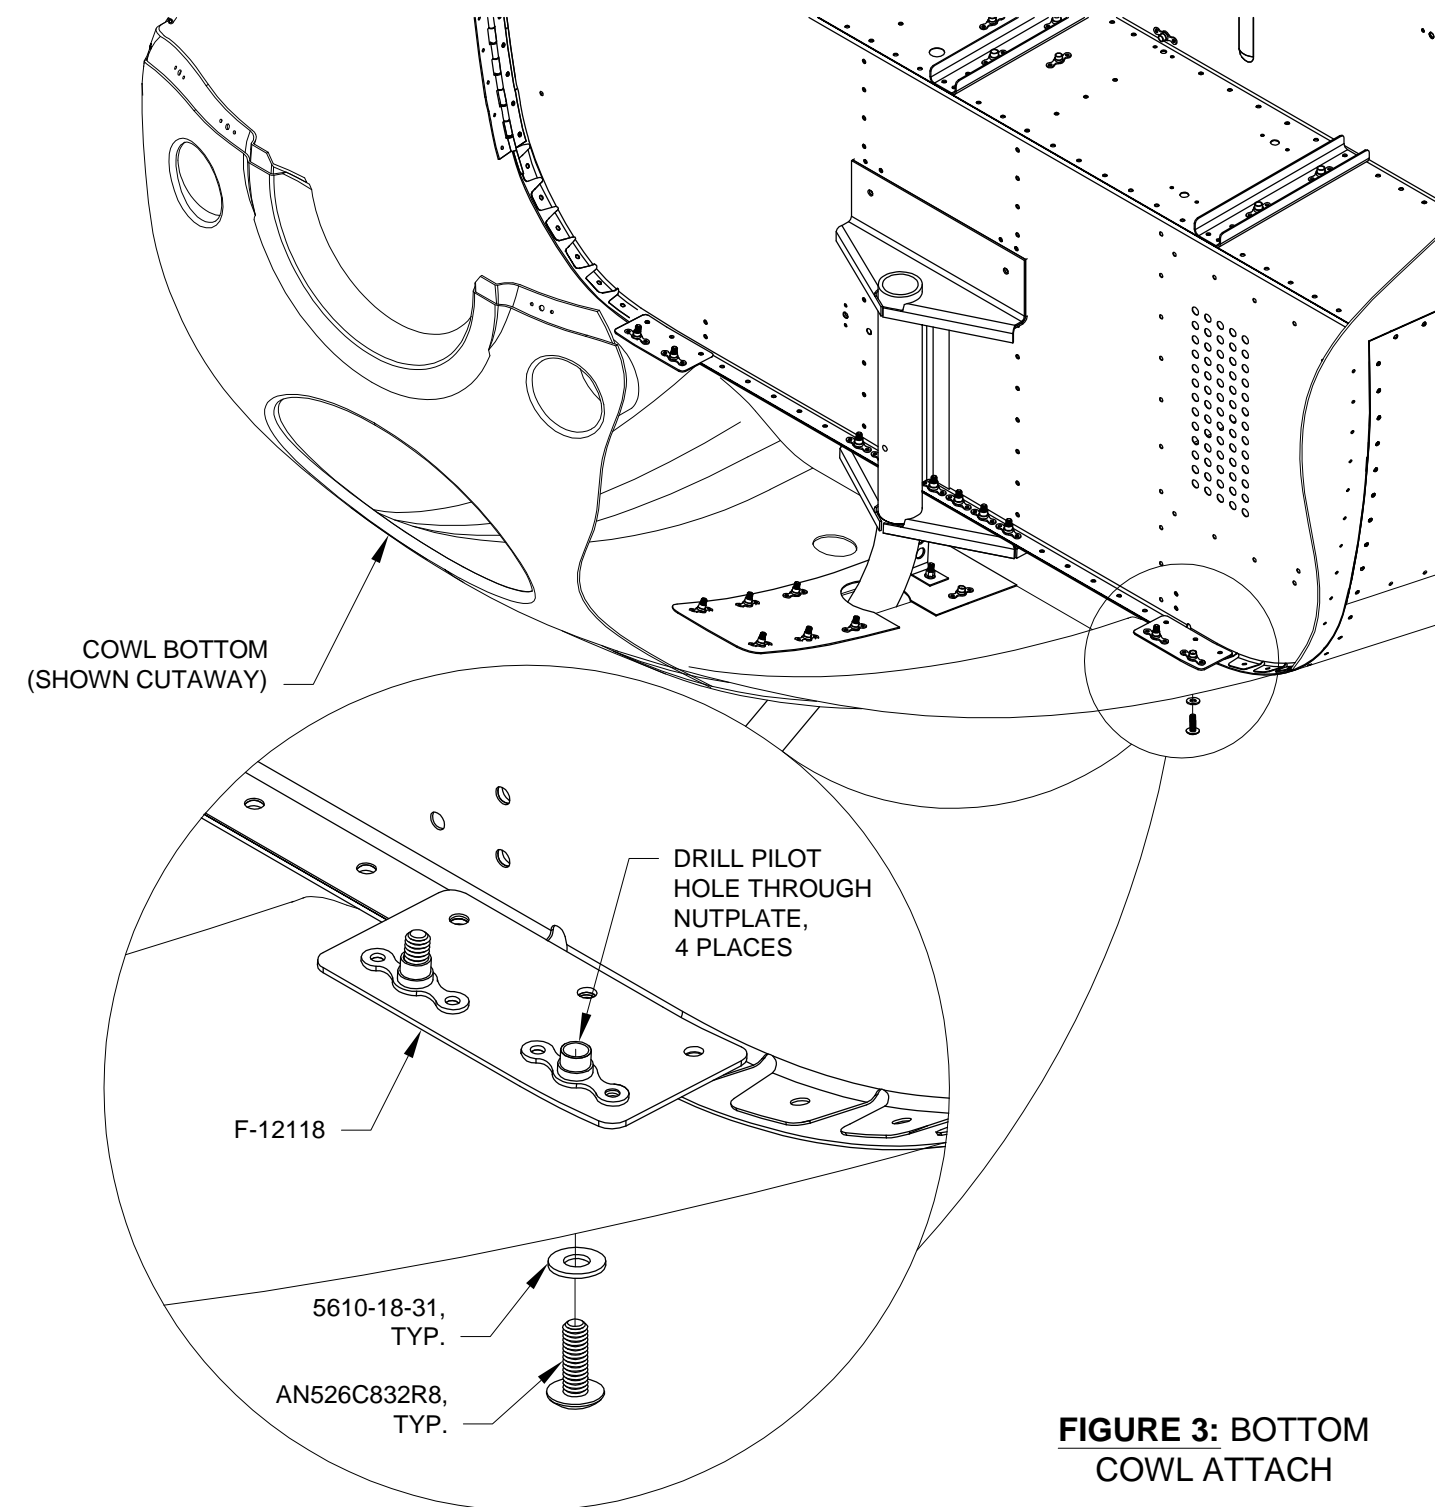

FIGURE 3: BOTTOM COWL ATTACH
Step 7: Install the F-1285 Cowl Bottom Close-out and attach the bottom cowl to the close-out using the hardware called out in Figure 3. Use a sanding block to remove the excess fiberglass if the aft edge of the cowl extends beyond the aft edge of the F-1285 Cowl Bottom Close-out.
Step 8: Drill #30 a pilot hole through each of the nutplates on the F-12118 Cowl Attach Plates into the bottom cowl. Remove the cowl and final-drill #19 the four pilot holes. See Figure 3.
Step 9: Install the bottom cowl and attach the hardware called out in Figure 3. Install the top cowl and secure with the hinge pins.